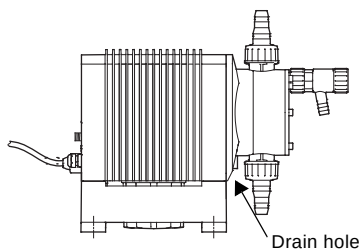

Fig. 1
- Make sure that the drain hole in the dosing head points downwards, see fig. 1.